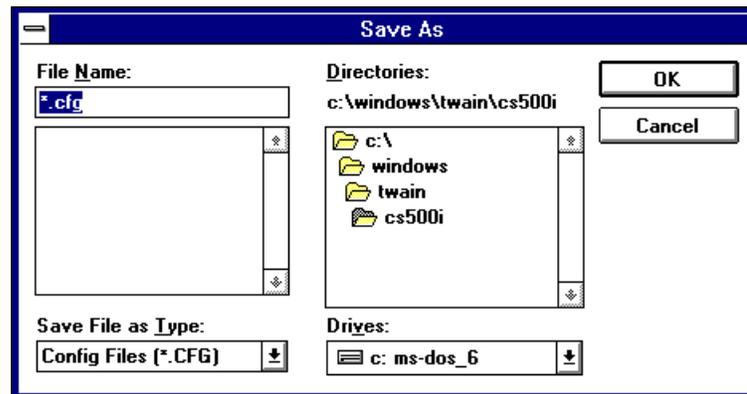

Figure 4-28. Store Dialog Box
7. Choose the Store button to display the Store dialog box (Figure 4-28).